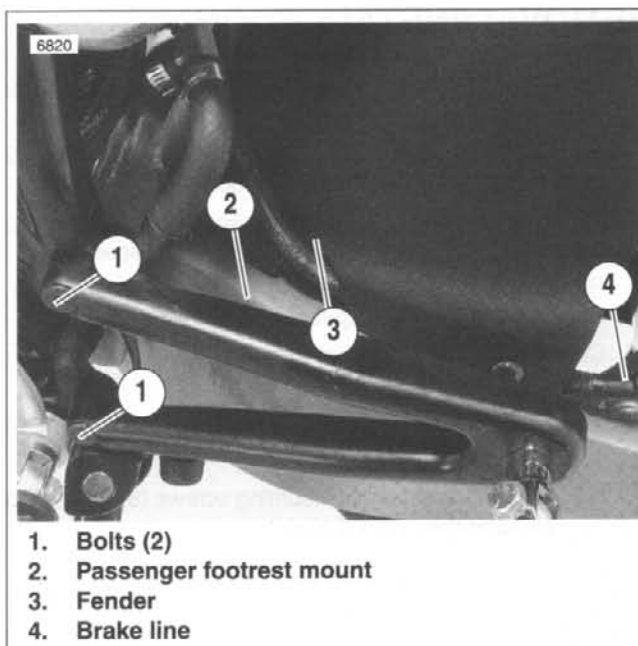

Figure 2-152. Rear Fender With Brake Line (Left Side)
1. See Figure 2-152. Loosen two bolts (1) securing footrest mounts (2) on both sides.
1. See Figure 2-152. Position fender (3) over tire, making sure that the brake line (4) is on the inside of the fender as shown.